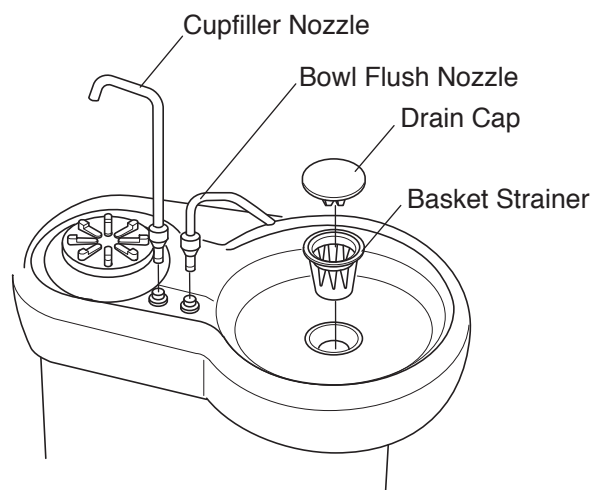

Fig.2-20 Cuspidor Top
7) SET UP CUSPIDOR TOP (Fig.2-20)